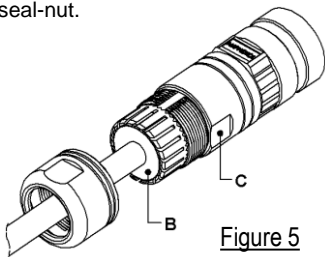

Figure 5
- 12) Push "cable grommet" (B) into "backshell" (C) as shown in figure 5.